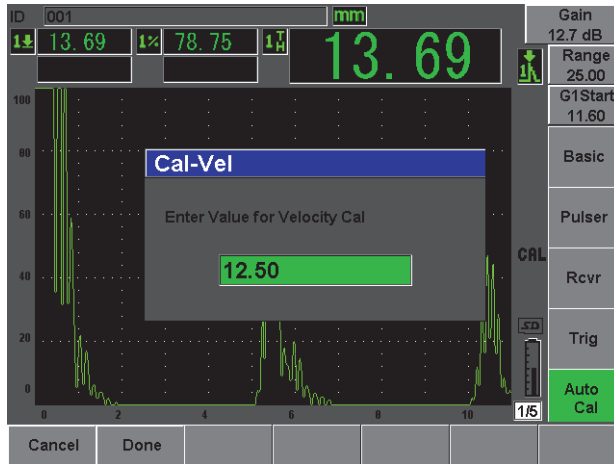

Figure 2-16 The Velocity Cal value
14. Use the knob or arrow keys to adjust the displayed value to the appropriate thickness. For this example, the transducer is coupled to a 12.5 mm step (see Figure 2-16 on page 50).